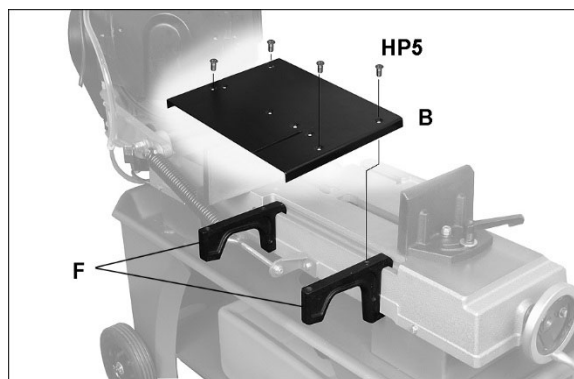

Figure 6-9: installing infeed table (712DV only)
8. The table plate (B, Figure 6-9) may be used as cutting table in vertical mode (models 712V and 712DV), or may be used as infeed table in horizontal mode (**712DV only**). To use as infeed table for model 712DV, place supports (F) on channel of saw bed as shown, and install plate with flat head screws (HP5).